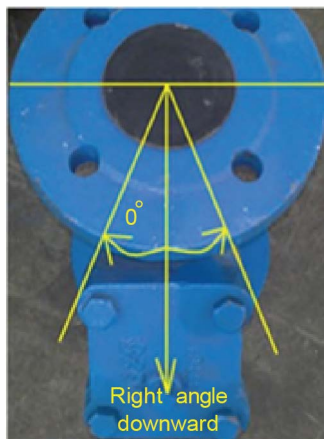

Figure 2
2. If there are any difficulties of installation position where drainage plug side cannot right downward, you may adjust a small degree of deviation (α°). You may counter clockwise or clockwise not more than 30 degree from the right angle downward (as per Figure 2). However, this type of installation will create the inconvenience on the cleaning work. But, it will not affect the function of the strainer